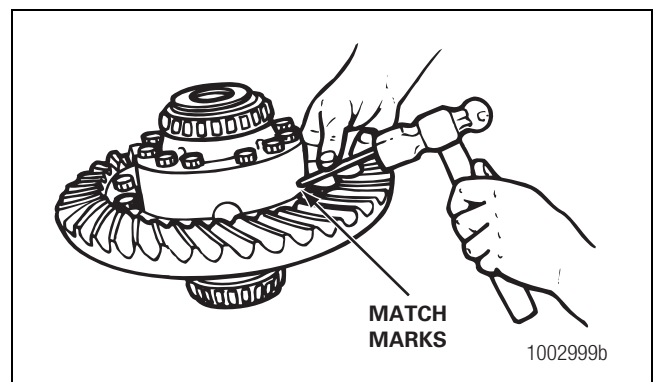

**Figure 3.15**
10. Remove the thrust screw, jam nut and thrust block from the differential carrier. Figure 3.9 and Figure 3.15.